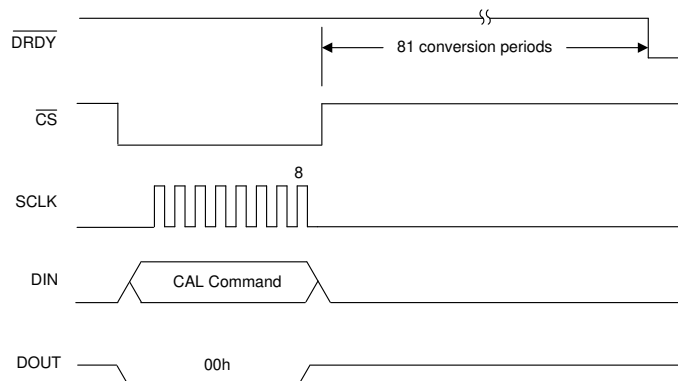

图 7-21. Calibration Command
- a. OFSCAL command. After the command is sent, $\overline{\text{DRDY}}$ is driven low 81 conversion periods later to indicate calibration is complete. The OFFSET register is updated with the new calibration value. As shown in 图 7-21, the first data output uses the new OFFSET value.
- a. GANCAL command. Apply a positive dc full-scale calibration voltage. After the command is sent, $\overline{\text{DRDY}}$ is driven low 81 conversion periods later to indicate calibration is complete. The ADC calculates GAIN such that the full-scale code is equal to the applied calibration signal. As shown in 图 7-21, the first data output uses the new GAIN value.